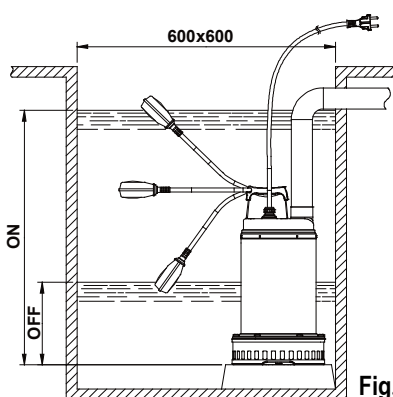

Fig.1
- 4.1 If the bottom of the well or borehole in which the pump is to operate is particularly dirty, it is advisable to provide a support for the pump to sit on so as to avoid clogging of the intake grid (**Fig.1**).
2. On the version provided with a float switch, ensure that the float can move freely (SEE THE PARAGRAPH ON ADJUSTING THE FLOAT SWITCH). Ensure that the **minimum dimensions** of the borehole are as in **Fig.1**. The dimensions of the borehole must also be calculated with relation to the quantity of water arriving and to the pump flow rate so as not to subject the motor to excessive starting operations.